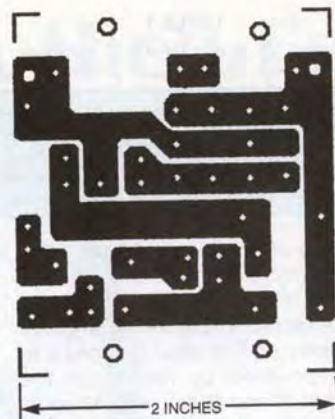

Fig. 3. This is a full-size foil pattern for the Lighting System PC board.
**Construction.** The author's prototype for the Lighting System was built on a printed-circuit board. If you'd like to do the same you can either etch your own board using the template shown in Fig. 3, or order a board from the source mentioned in the Parts List (complete kits of parts are available from the source as well). Another option is to build the circuit on a piece of perforated board.